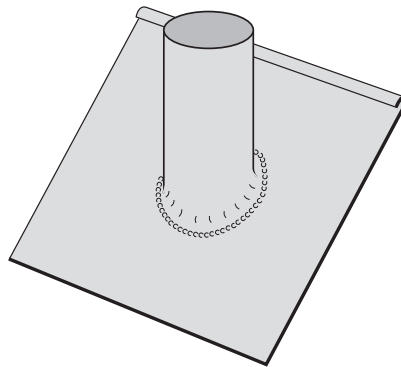

Figure 39
(97) Name the weathered detail shown in Figure 39. (Page 367.)